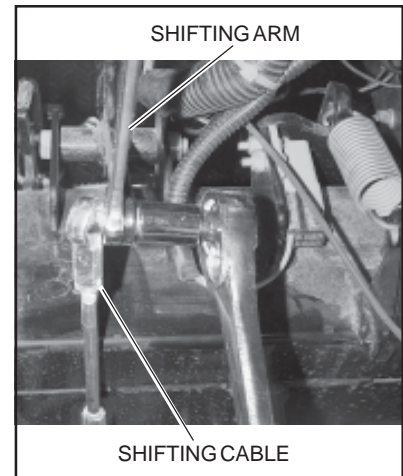

Figure 7
11. Disconnect the shifting cable from the shifting arm (Figure 7).